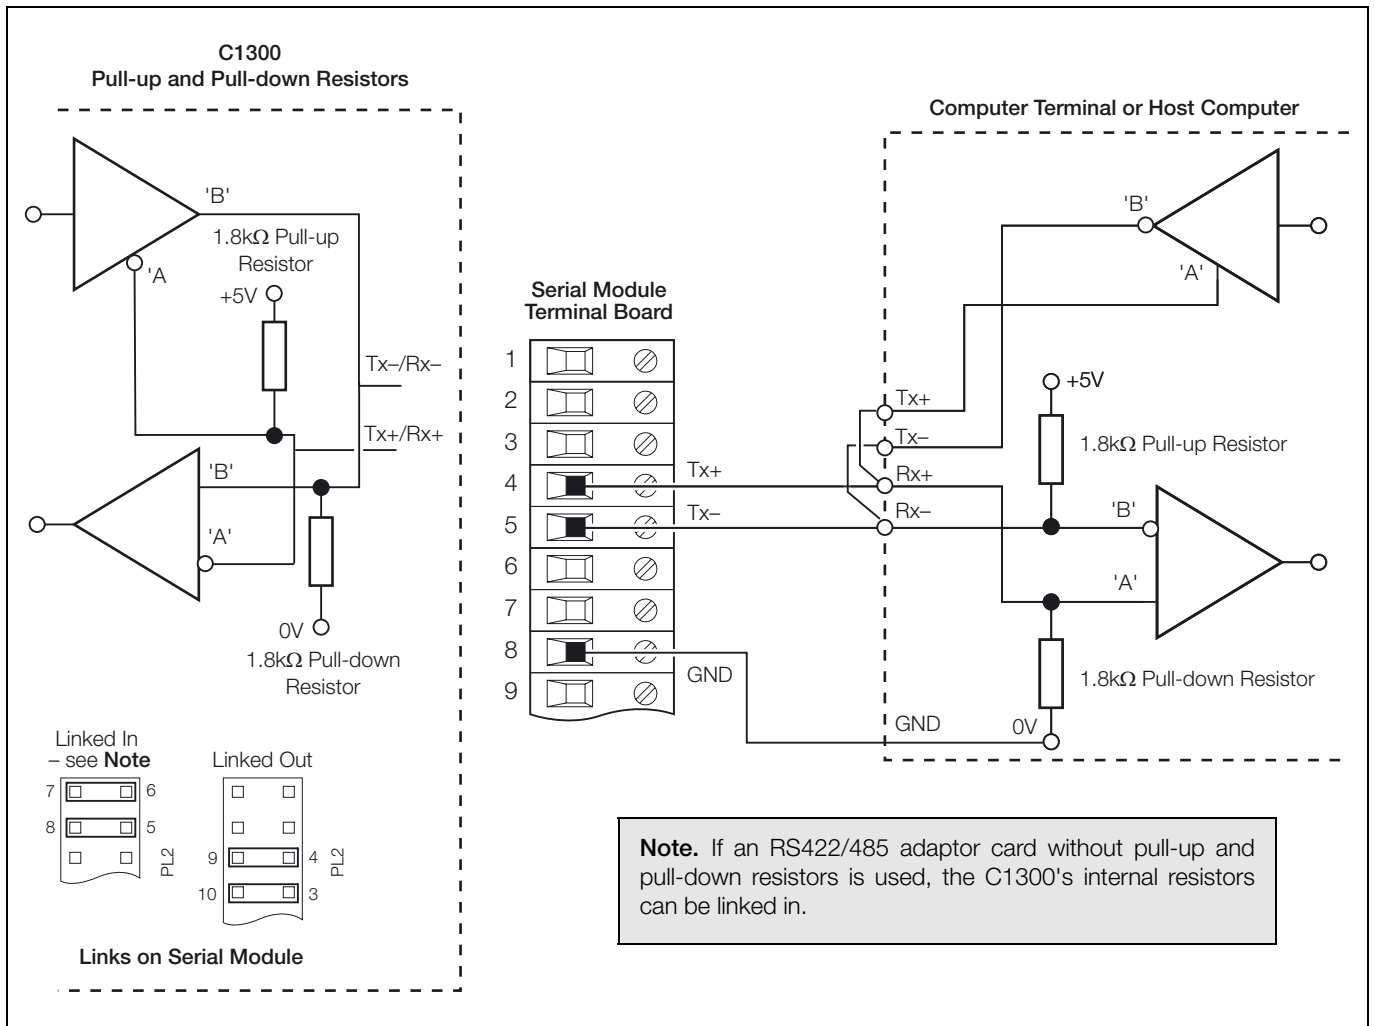

Fig. 2.1 Pull-up and Pull-down Resistors (3-wire Operation)
2.3 Pull-up and Pull-down Resistors – Figs. 2.1 and 2.2
To prevent false triggering of the slave (C1300) by the presence of noise when the master (host computer) is inactive, 1.8kΩ pull-up and pull-down resistors must be fitted to the RS422/485 adaptor card – see Figs. 2.1 and 2.2.